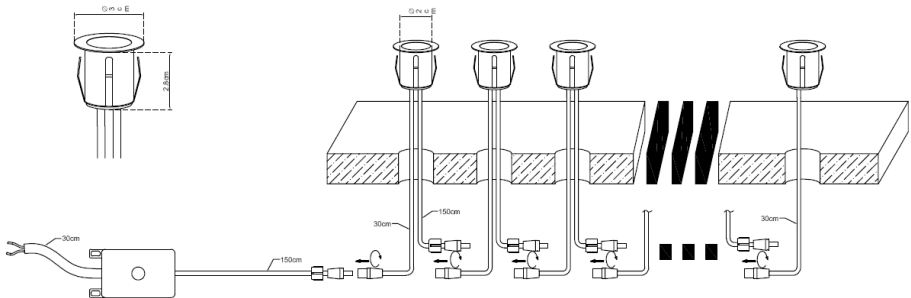

Fig. 2
- Feed the pre-installed cables through the holes and connect with the pre-installed plugs and sockets (see Fig. 2)